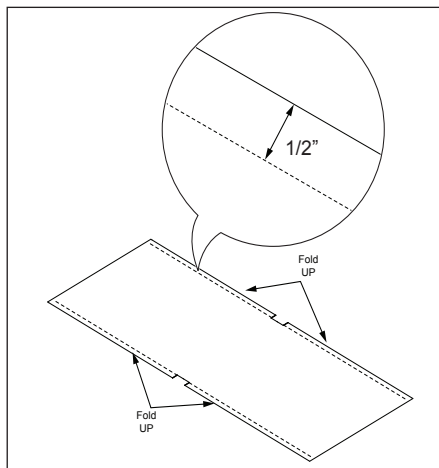

Figure 4. Fold and crease edges of Release Sheet
1. Fold and crease edges of the Release Sheet as shown in Figure 4.